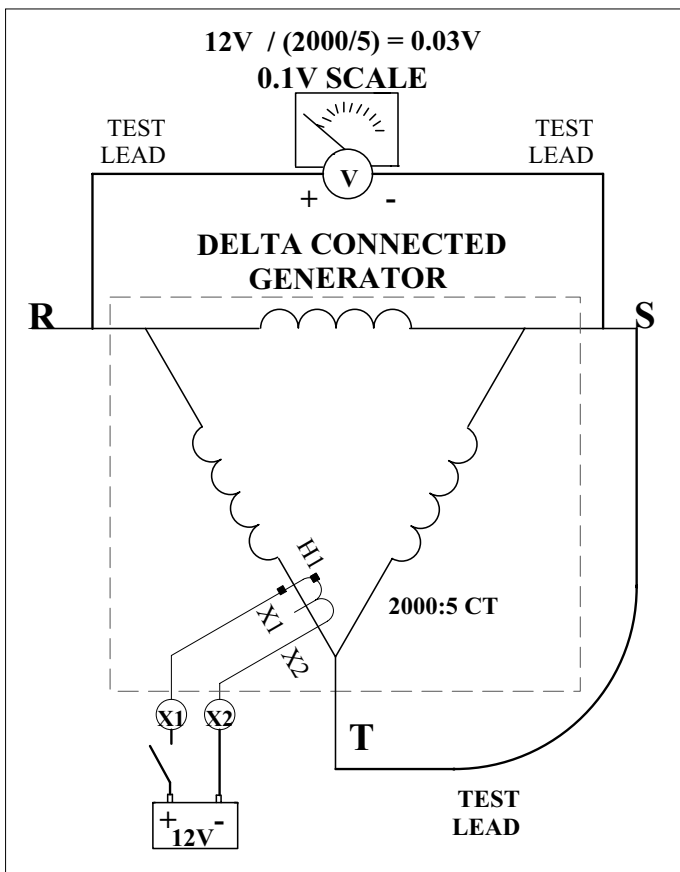

Figure 4 — DC Polarity Test Circuit Delta Connected Generator
- If the CT is enclosed within a transformer, connect the voltmeter across the transformer bushings associated with the CT and short the remaining bushing to the nonpolarity bushing under test. Review the CT drawing carefully and note the CT polarity and meter polarity. (See Figure 4.)